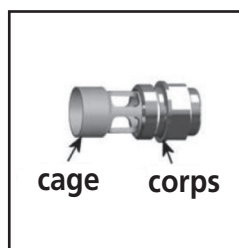

Fig. 19
6. NE PAS RETIRER LA CAGE EN PLASTIQUE DU CORPS DE LA SOUPAPE D'AIR POUR ÉVITER D'ENDOMMAGER CETTE CAGE. (Voir fig. 19)